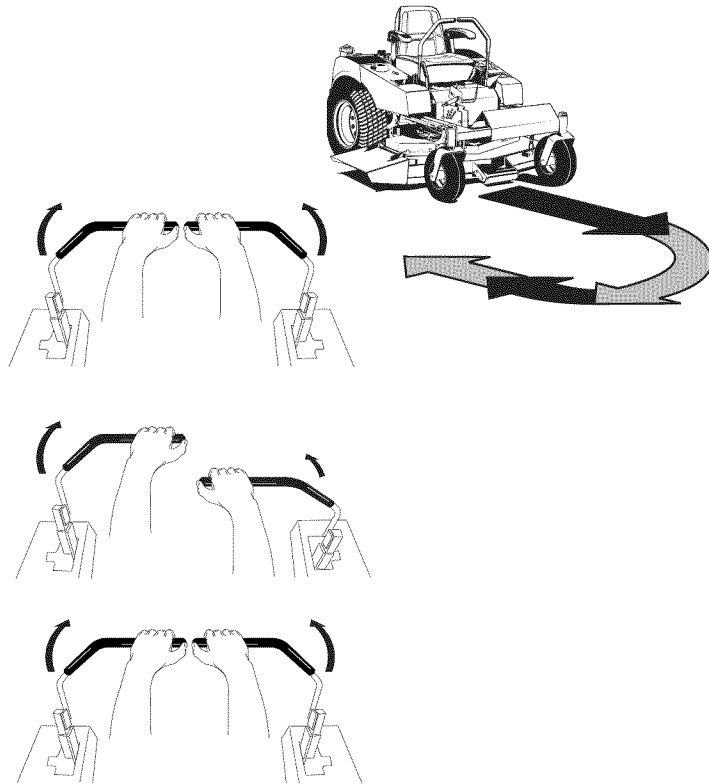

Figure 14. Executing an End-Of-Row Turn
2. Move the LEFT ground speed control lever forward slightly while moving the RIGHT ground speed control lever back to center and then slightly back from center (see Figure 14). Be sure to keep both wheels moving to avoid turf damage.